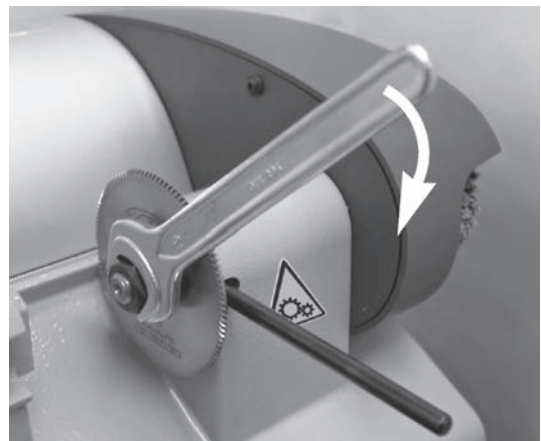

Fig. 25
- 3) Place the locking pin into the groove in the base and the special hole in the cutting tool shaft (Fig. 25).
- 7) Remove the locking pin and fix the shield (H) with screw (H1).